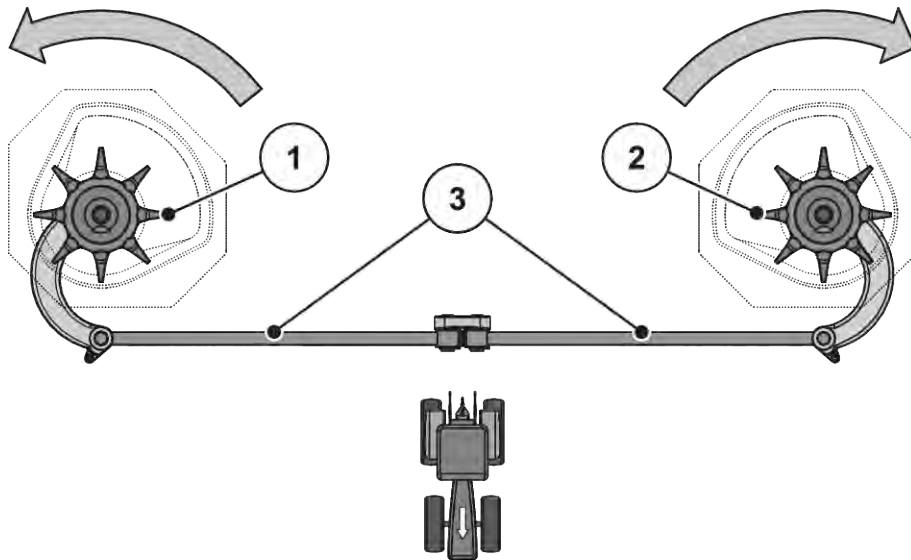

Fig. 53: Checking the agitator drive
- Manually turn the agitator head **into the rotational direction of the spreading disc**. See *Fig. 53 Checking the agitator drive*.
- Turn the agitator head manually or with the help of an oil filter belt forcefully **against the rotational direction of the spreading disc**. See *Fig. 53 Checking the agitator drive*